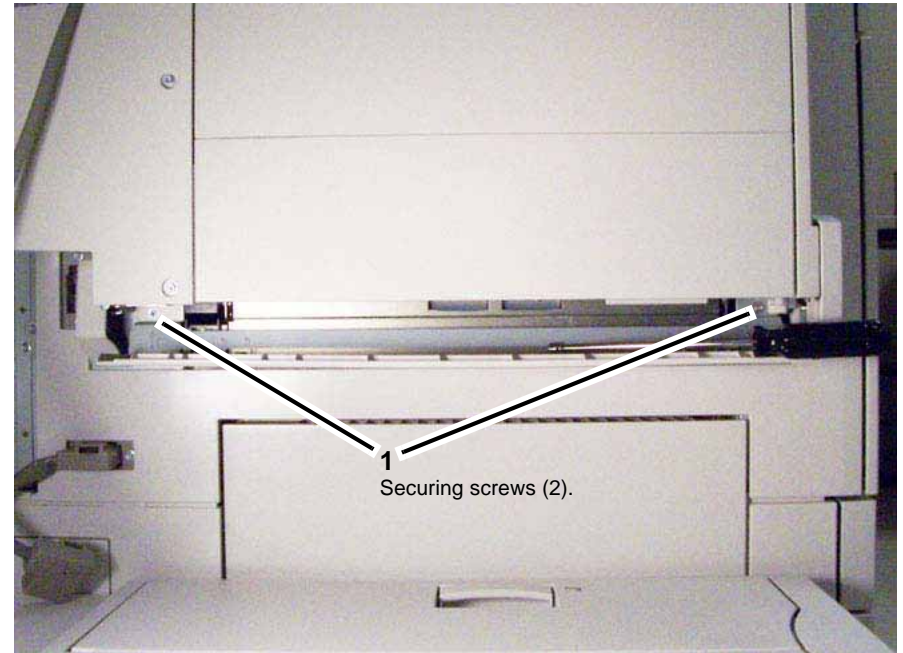

Figure 1 Tray 5 / Bypass Securing Screws
- c. Open the Lower Cover and remove the (2) securing screws. Figure 1